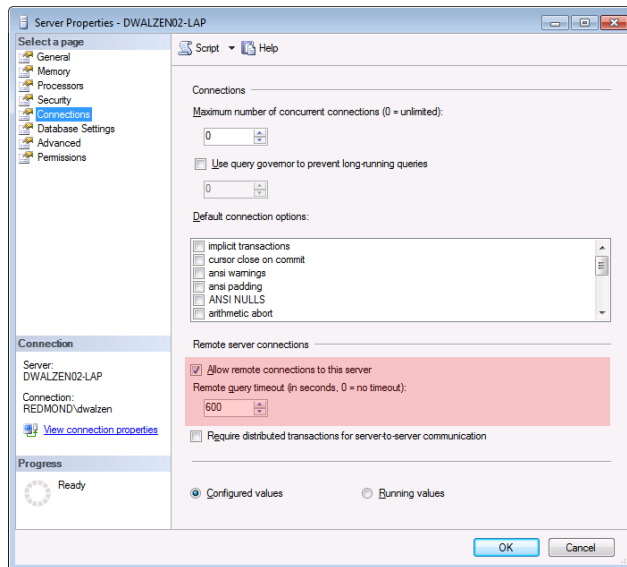

Figure 21-2
4. Click on **Connections** and check the **Allow remote connections box**. See Figure 21-2.